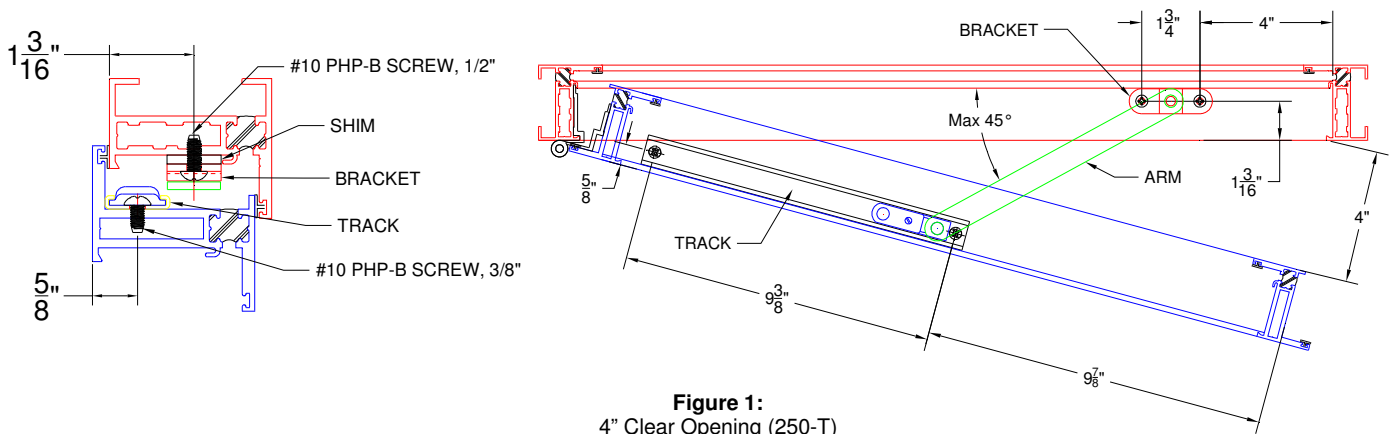

Figure 1:
3. Mark location of four (4) holes (Figure 1 & 2).
5. Install the bracket & shim to frame with two (2) #10 PHP-B 0.5" screw.
6. Install the track to vent with two (2) #10 PHP-B 0.375" screw.